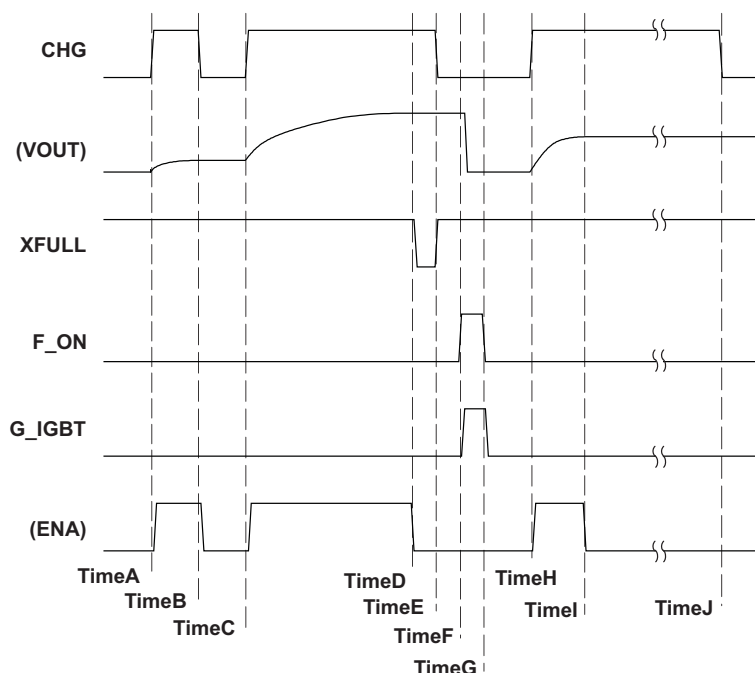

Figure 4. Whole Operation Sequence Chart
The only way to *start* charging is to input  $CHG \uparrow$  (see time *A/C/H* in Figure 4). Each time  $CHG \uparrow$  is applied, the TPS65561 starts charging.
1. Forced *stop* by inputting  $CHG = L$  from the controller (see time *B* in Figure 4).
2. Automatic *stop* by detecting a full charge.  $V_{OUT}$  reaches the target value (see Time *D* in Figure 4).
3. Protected *stop* by detecting an over current function ( $OV_{DS}$ ) trigger at SW pin (see Time *I* in Figure 4).
The device starts charging at time *H*, and  $OV_{DS}$  protection occurs at Time *I* (see Figure 4). At Time *I*, XFULL stays high. At Time *J*, the controller detects  $OV_{DS}$  protection through the expiration of a timer and then sets CHG to low to terminate the operation.
The TPS65561 provides an overvoltage monitor function of the SW pin. The TPS65561 is latched off if the voltage on the SW pin is above  $OV_{DS}$  during the switch ON time (see Figure 4 and its descriptions).